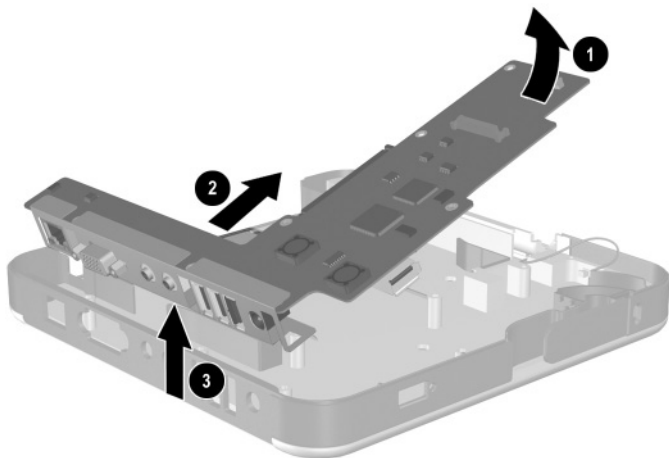

Figure 5-35. Removing the Board Assembly
11. Lift the front edge of the board assembly ❶ until it rests at an angle (Figure 5-35).
12. Slide the board assembly forward ❷ until the rear panel connectors clear the bottom case.
13. Lift the board assembly straight up ❸ to remove it from the bottom case.